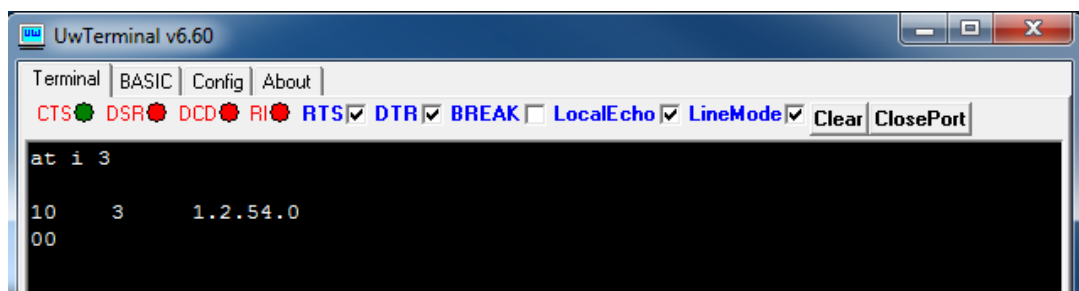

Figure 12: Issuing `AT I 3` to check firmware version
5. Send the string `AT I 3` as shown in Figure 12: